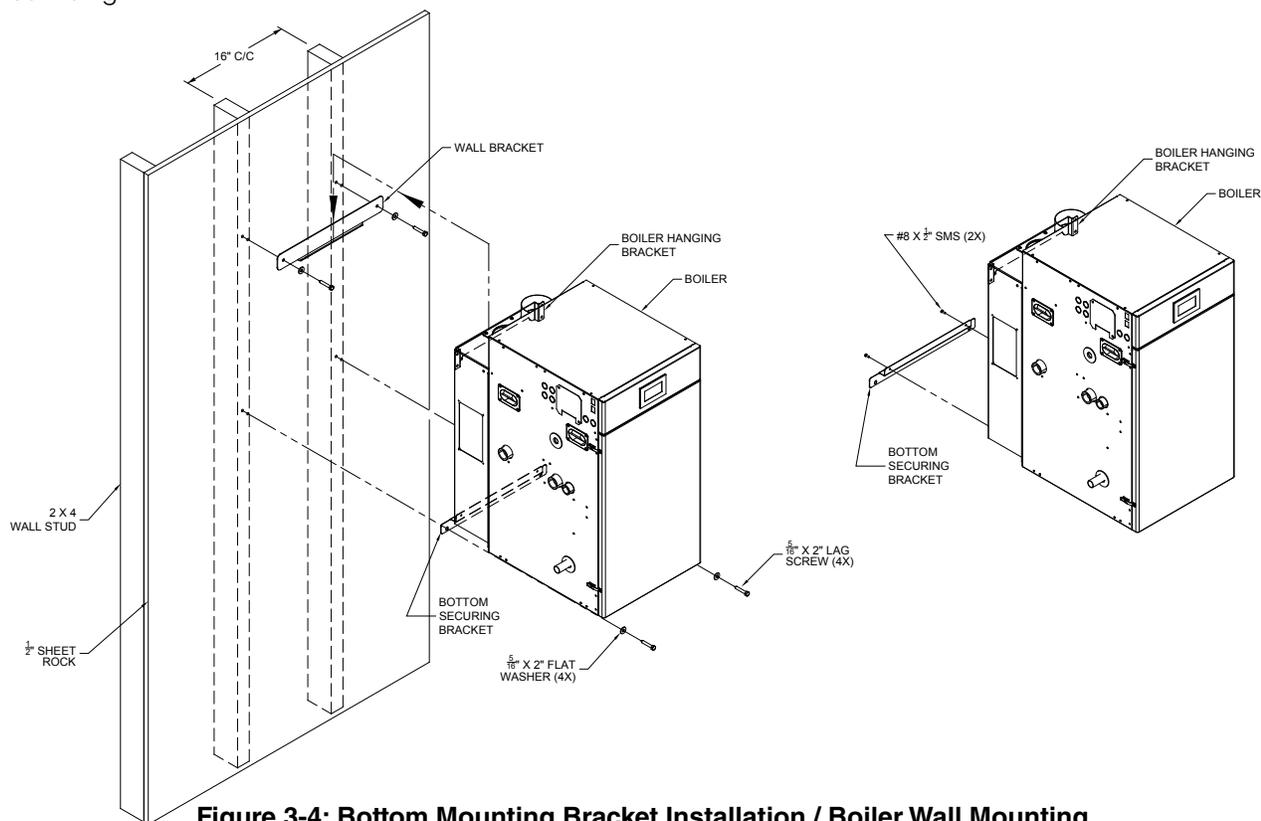

Figure 3-4: Bottom Mounting Bracket Installation / Boiler Wall Mounting
- h. Attach the wall hanging bracket using the 5/16 in. x 2 in. lag screws and 5/16 in. plated washers, or other suitable anchors as appropriate (Figure 3-4). Make sure the bracket is level.
- i. Attach Bottom Securing Bracket to boiler air box with two #8 x 1/2 in. Phillips round head sheet metal screws. Refer to Figure 3-4 for details.
- j. Hang the boiler on the installed wall bracket as shown in Figure 3-4.
- k. If not already done in Step (f) locate and drill holes "C" and "D" using the ob-round slots in the Bottom Securing Bracket. Secure the Bracket to the wall using the 5/16 in. x 2 in. lag screws and 5/16 in. plated washers, or other fasteners as appropriate (Figure 3-4).